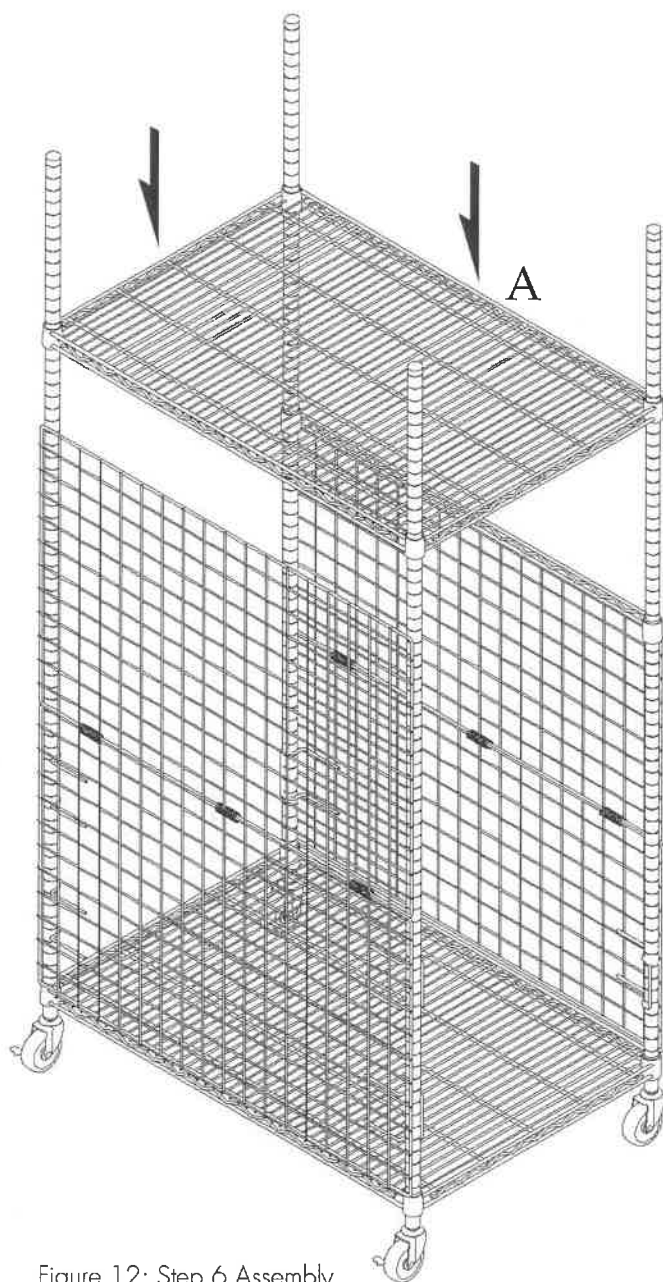

Figure 12: Step 6 Assembly
Clip a pair of sleeves (I) at the same height on all four upright tubes, just above the front panel with door (E). Slide shelf (A) until it rests firmly on the sleeves (I) as shown in Figure 12.